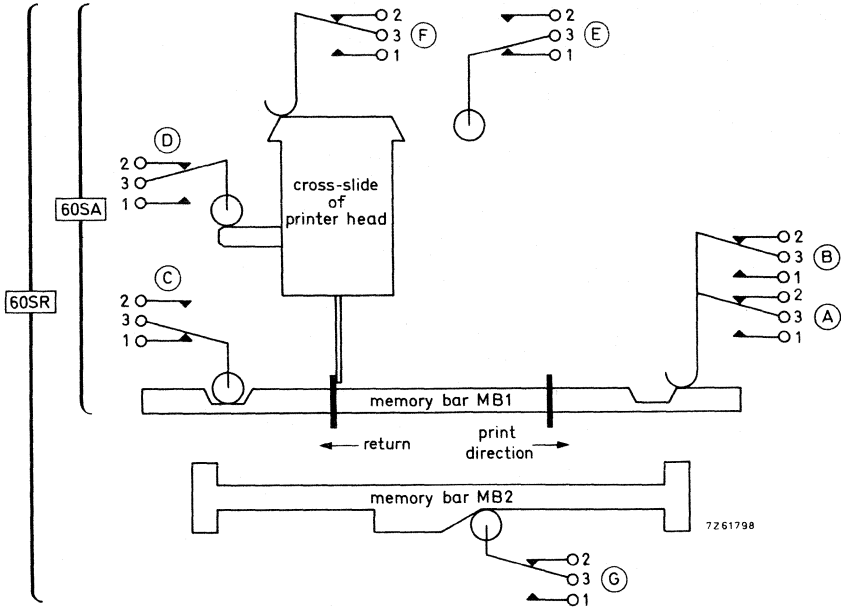

Fig. 2. Operation diagram
4. Six micro-switches and one memory bar (see Fig. 2) for the following functions:
Operation (see Figs 2 and 3)